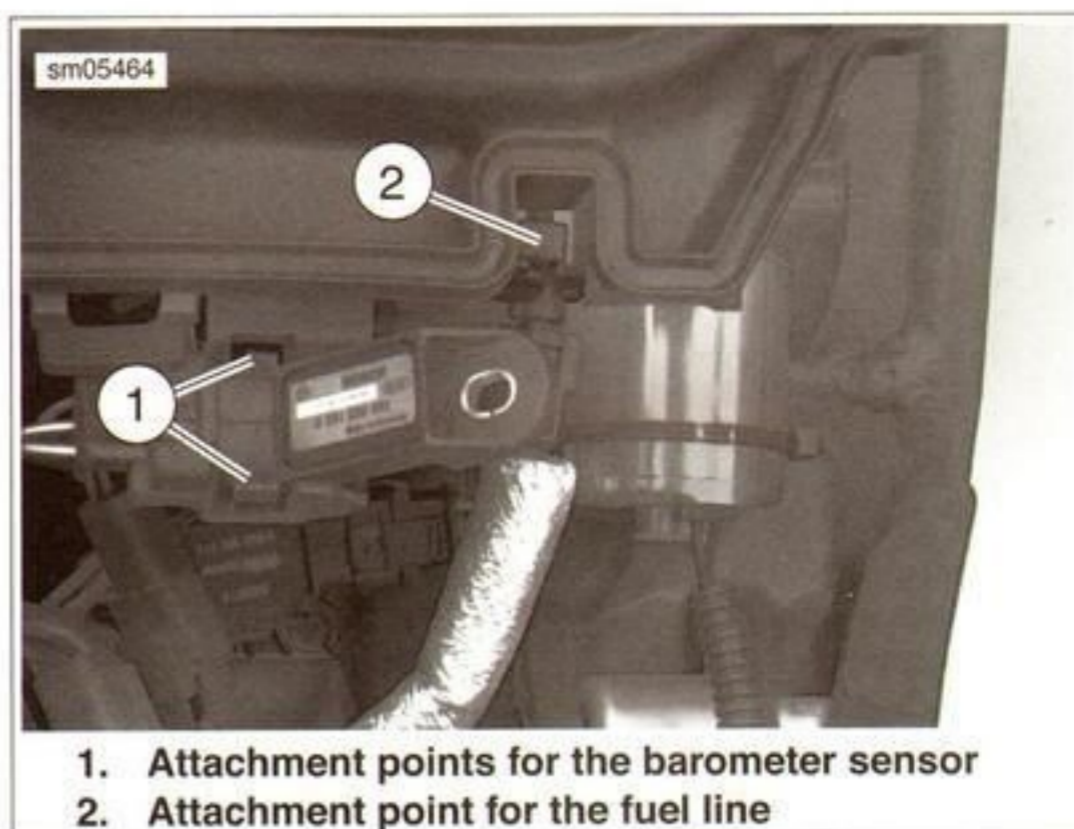

Figure 3-19. Baseplate Attachments/Barometer Sensor and Fuel Line
6. See Figure 3-19. Disconnect the BARO sensor (1) and fuel line from the baseplate (2) hook.